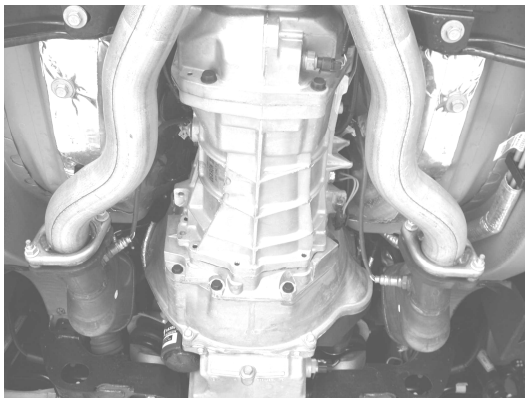

Figure 1
1. Unbolt the flanges shown in figure 1 located behind catalytic converter. Place the hardware and gasket to the side for use during the installation of your new exhaust system.